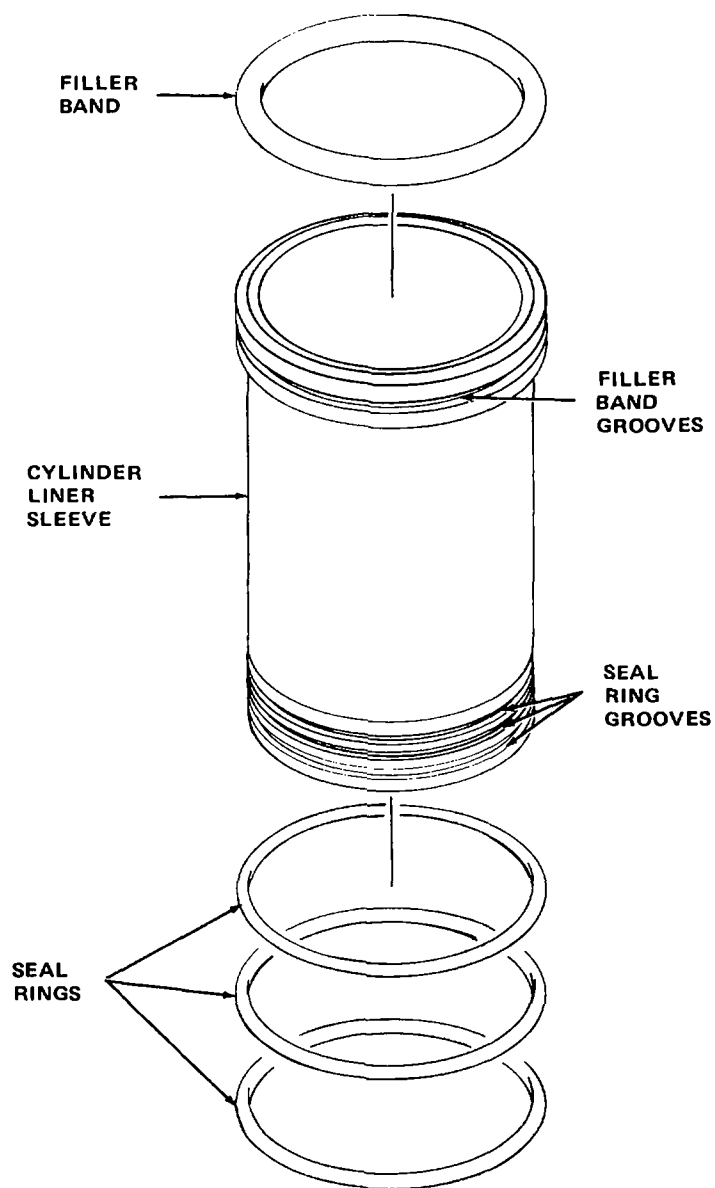

Figure 11-41. Cylinder Liner, Exploded View
f. Remove and discard filler band and seal rings (see figure 11-41).
b. Put liquid soap, Federal Specification P-D-220C, on the lower portion of the liner bore in block, on the seal ring grooves on bottom of liner, and on the seal rings (see figure 11-41).